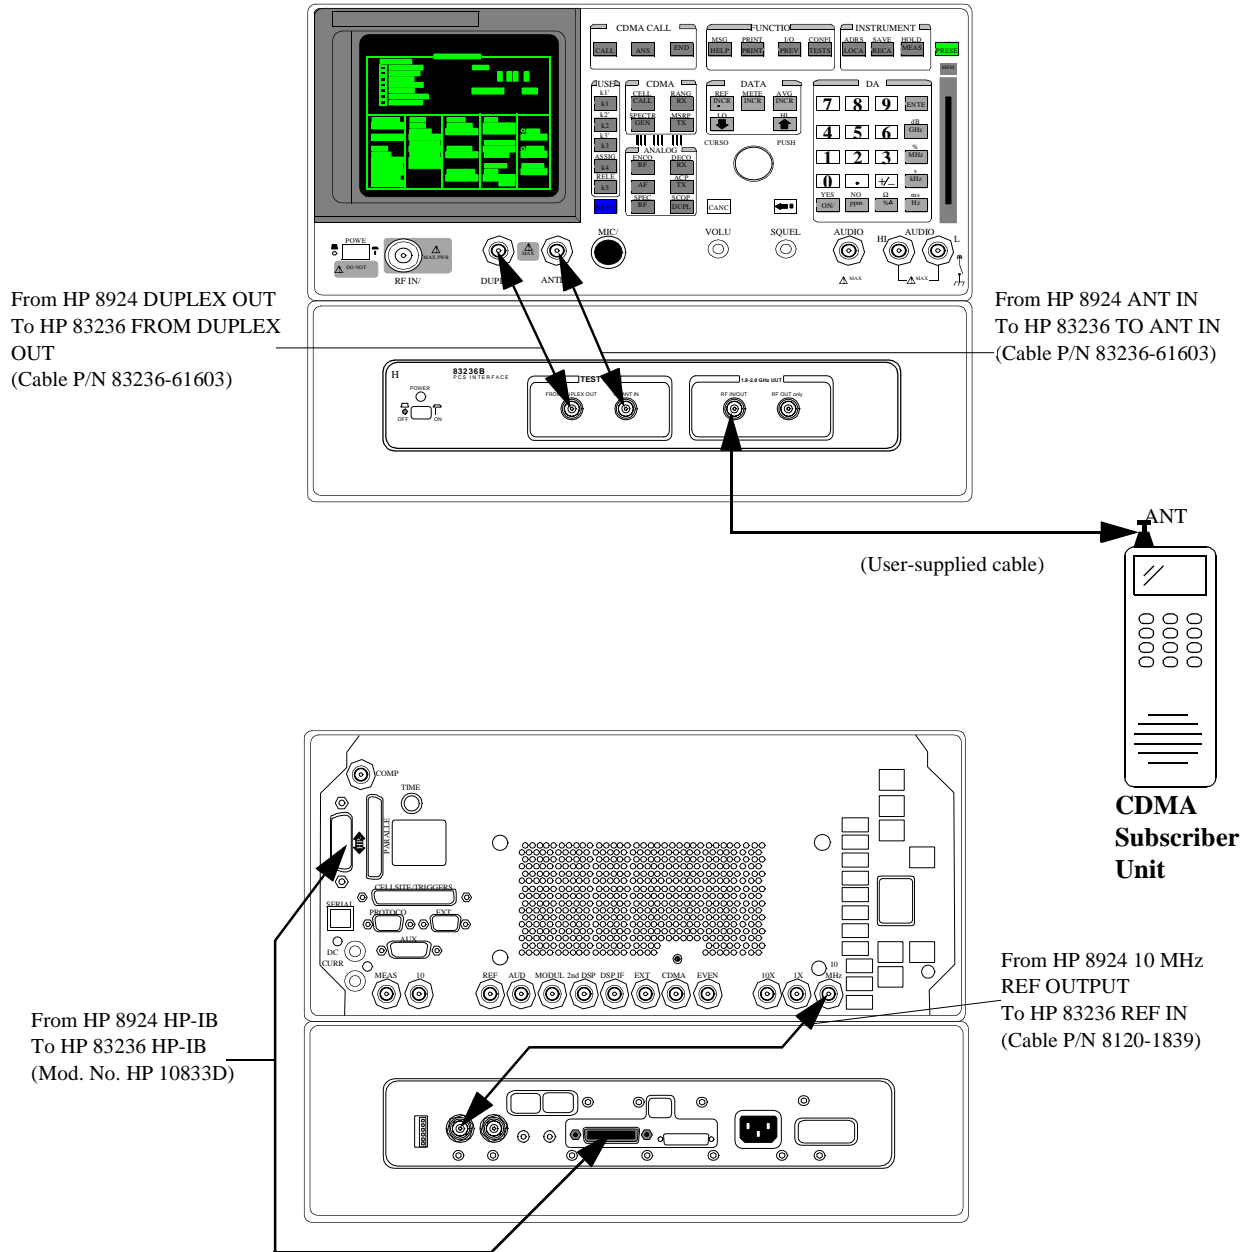

Figure 6 Connection diagrams for the HP 8924 Test Configuration (CDMA Subscriber Unit Tests; HP-IB Control)
- 2 Make the front and rear panel connections shown in figure 6.